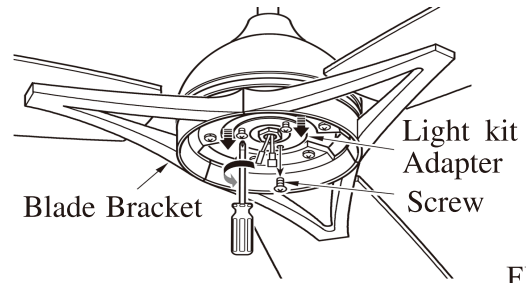

FIG.16
1. Remove 1 of 3 screws on light kit adapter,and loosen the other 2 screws. (See fig.16)